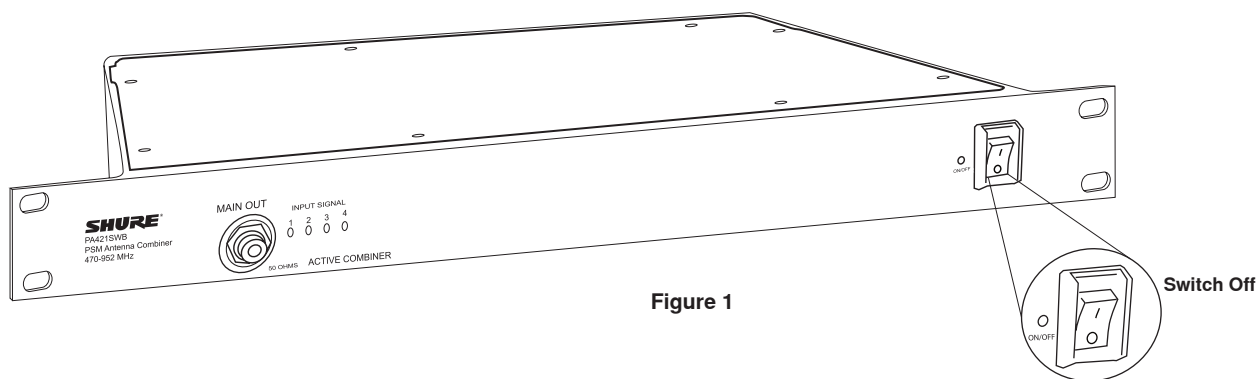

Figure 1
1. Before installing, set the front panel power switch to OFF. (See Figure 1)